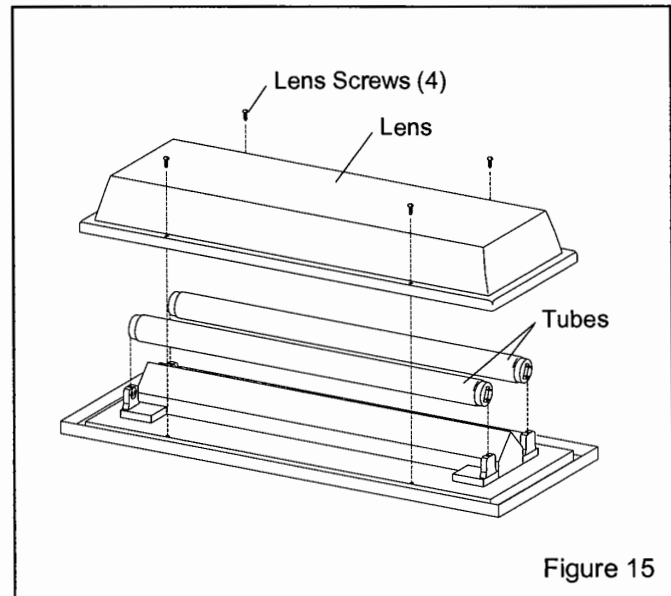

Figure 15
7.6.3.2 Flip the assembly over to access the lens screws, ref. Figure 15.